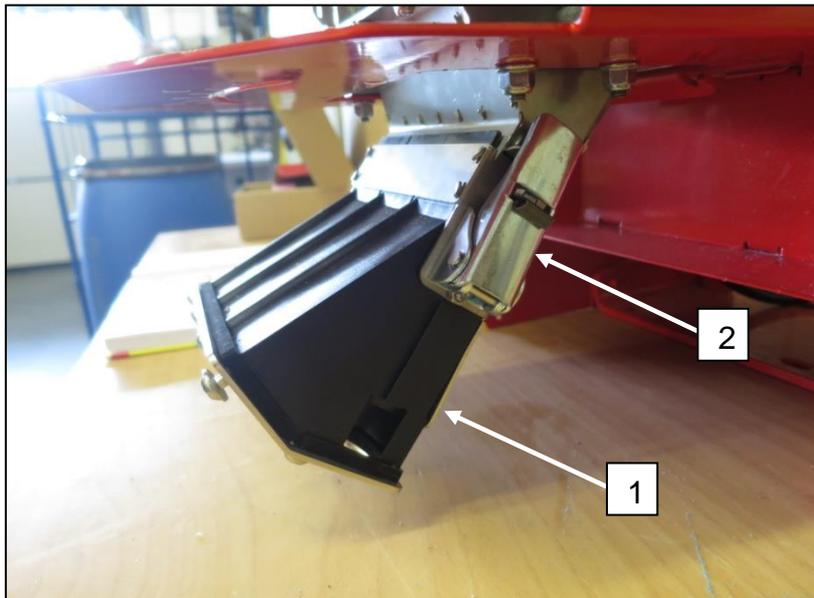

Fig.: 13
- To remove the transition pieces **1** (Fig.: 13), loosen the quick-release fasteners **2** on both sides and remove the transition pieces.